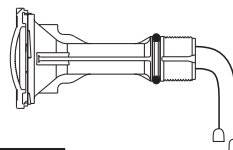

Figure 16.
1. When replacing the bulb assembly, make sure to use the correct bulb assembly unit, Quasar Non-Return **OR** Quasar 500 NR, see Figure 16. The bulb assemblies are **NOT** interchangeable. *Wrong bulb assembly will permanently damage light.*
11. Connect the wire connectors from the bulb assembly to the wire connectors attached to the snap-on cord cap. Make sure to use the correct bulb assembly unit, Quasar Non-Return **OR** Quasar 500 NR, see Figure 16. The bulb assemblies are **NOT** interchangeable. *The wrong bulb assembly will permanently damage light.*